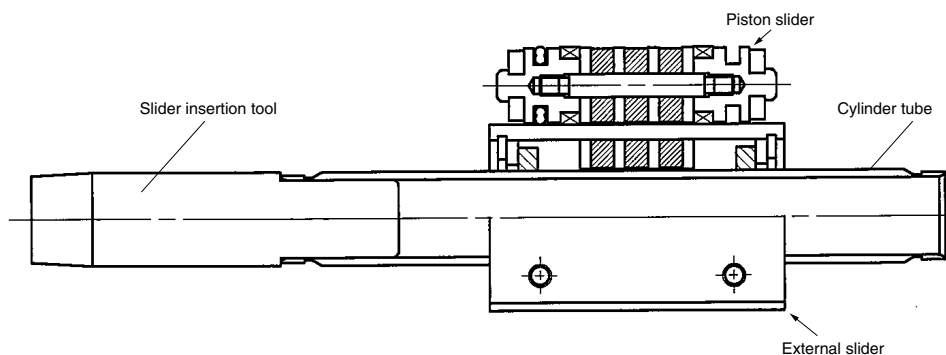

Fig. 11 Correct positioning (the centers of the sliders are aligned) ($\phi 10$)
- (1) Apply grease to the inner surface of the cylinder tube.
- (2) Place the piston slider on top of the external slider (for bore sizes $\phi 6$ and $\phi 10$). For bore sizes other than $\phi 6$ and $\phi 10$, the sliders have no insertion direction.
- (3) If the piston slider will not couple at the center of the external slider as in Fig. 12, rotate the piston slider 180° so it is positioned as in Fig. 11. If incorrectly positioned sliders are inserted into the cylinder tube as is, they will not magnetically couple as required.
- (4) Insert the slider insertion tool into the cylinder tube.
- (5) Confirm that the sliders are in the same state as in Fig. 11, and insert the greased external slider into the cylinder tube.
- (6) Remove the slider insertion tool from the cylinder tube.
- (7) Insert the greased piston slider into the cylinder tube.
- (8) Manually move the external slider back and forth multiple times to spread the grease within the cylinder tube.
- (9) Move the external slider to the stroke end, and lightly wipe off the excess grease adhering to the end surface of the piston slider.
- (10) Follow the disassembly procedure in the reverse order to reassemble the end cover, etc.